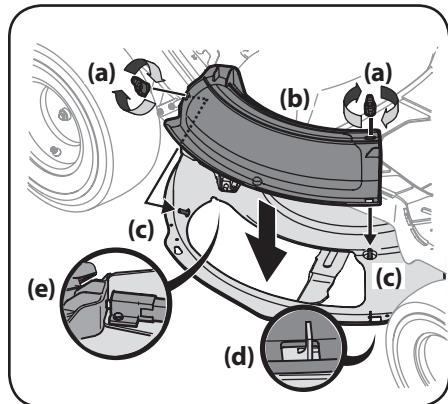

Figure 2-10
1. Remove the wing knobs (a) installed on the mowing deck and retain for later installation. See Figure 2-10.
2. Install the mulch plug (b) into the deck discharge opening on the deck. The studs (c) on the deck surface will fit through the holes on the upper portion of the mulch plug (b). The small tab (d) on the deck lip area will fit through the square cutout on the lower portion of the mulch plug (b). See Figure 2-10.